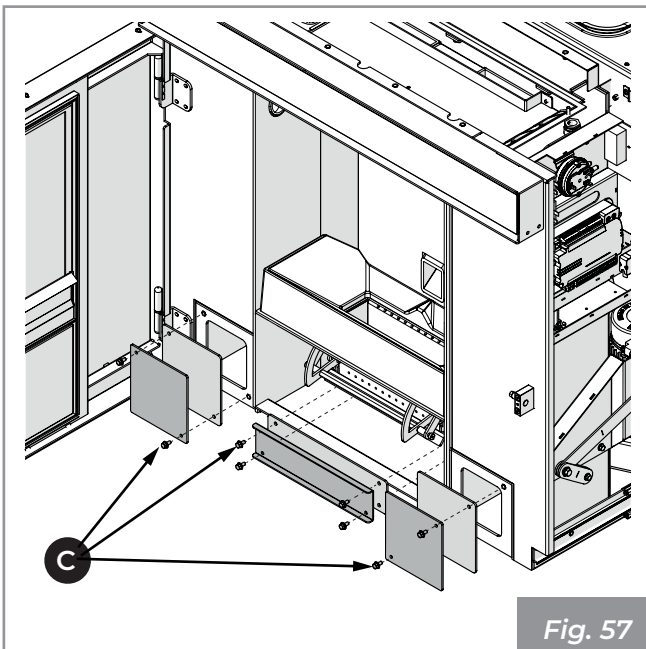

Fig. 57
- Remove the screws **(C)** and remove the covers to access the manifolds (**Fig. 57**)